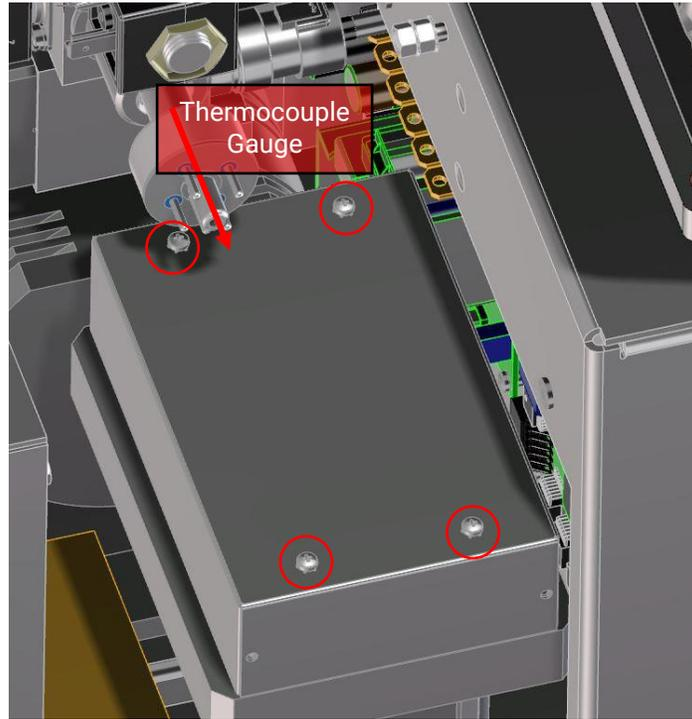
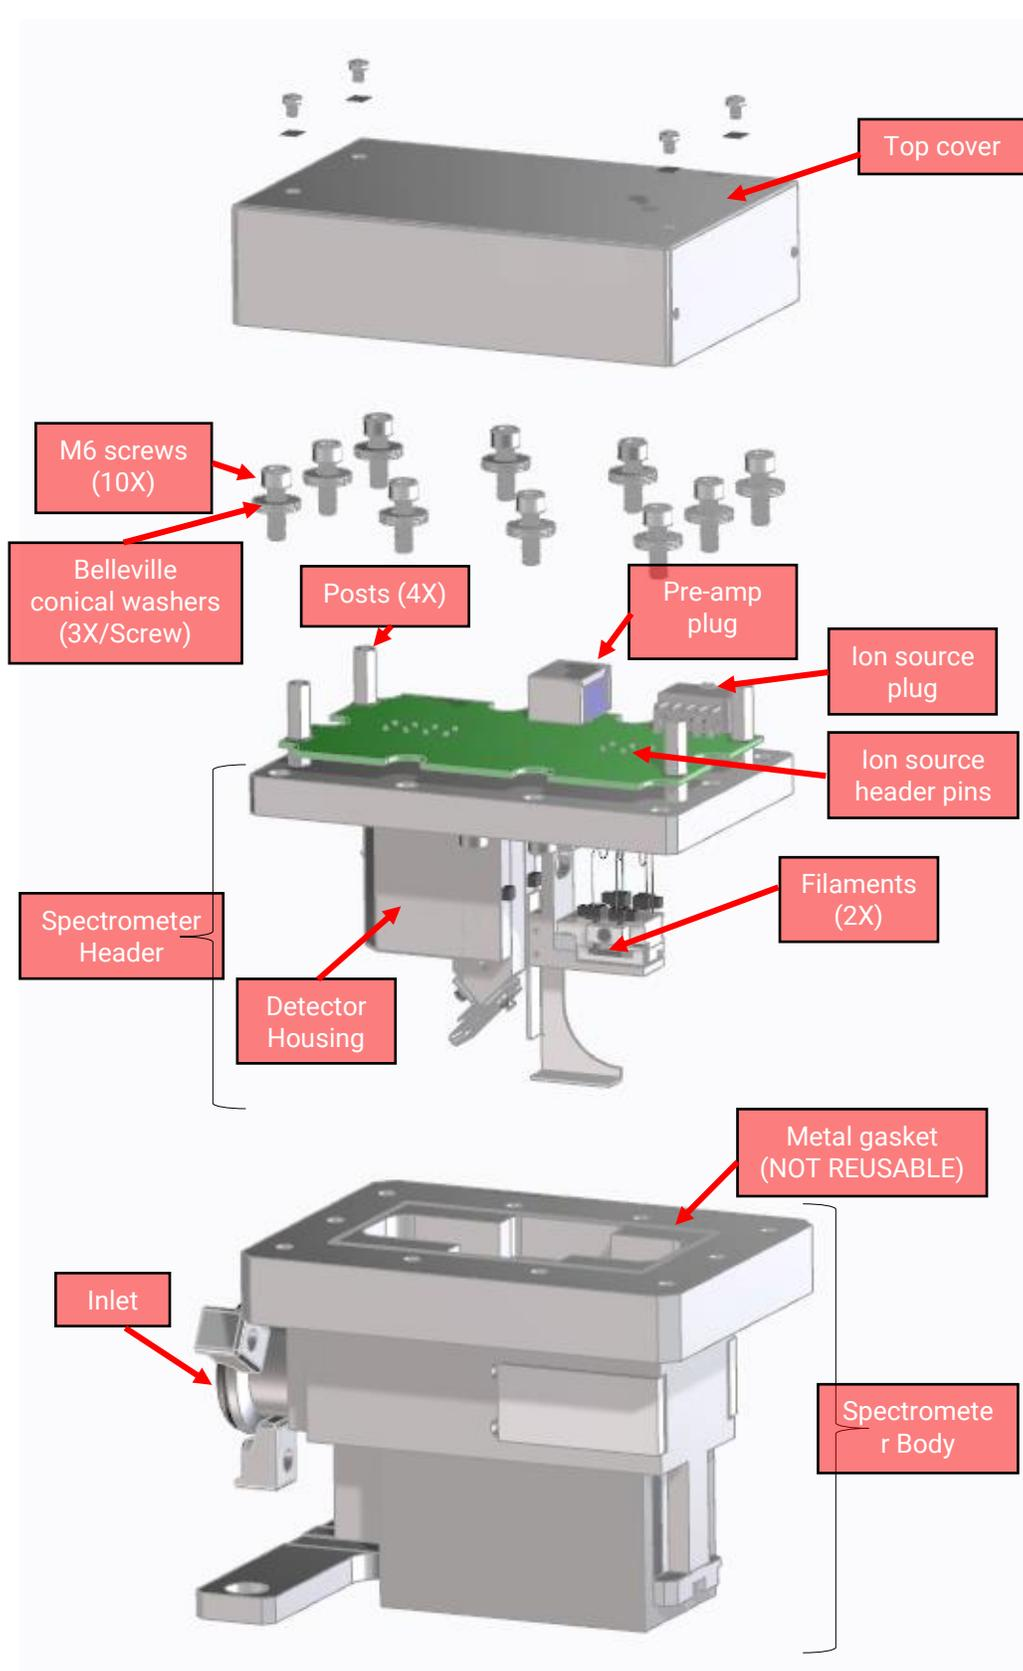

Figure 2-2. Spectrometer access
Figure 2-3. Spectrometer exploded view
5. To remove the spectrometer top cover, it may be necessary to first pull straight out the thermocouple gauge (shown in Figure 2-2 with the red arrow. It is shown without the outside black plastic cover). Leave the thermocouple gauge connected to its wiring. Use an M3 Phillips head screw driver to remove the four screws securing the aluminum spectrometer cover. The screw shown in the top right of Figure 2-2 will be securing a grounding strap. Leave the ground strap hanging from the leak detector frame. Disconnect the two electrical cables plugged into the spectrometer board, the pre-amp RJ45 style connector on the turbo side of the spectrometer, and the ion source multi-pin connector (Cables not shown for clarity: refer to Figure 2-3). Remove the top cover, set aside with the screws.
Refer to Figure 2-3 for disassembly of the spectrometer header.